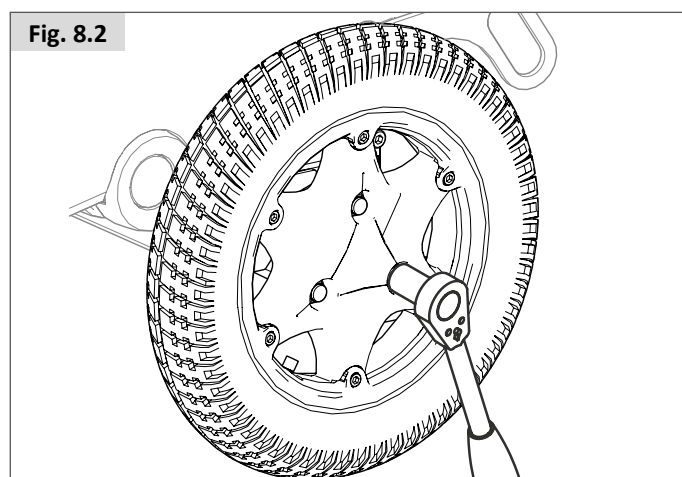

Fig. 8.2
Please refer to images (Fig. 8.2 - 8.10).
- Use a 16 mm AF stud bolt socket to loosen the 3 lug nuts (Fig. 8.2).